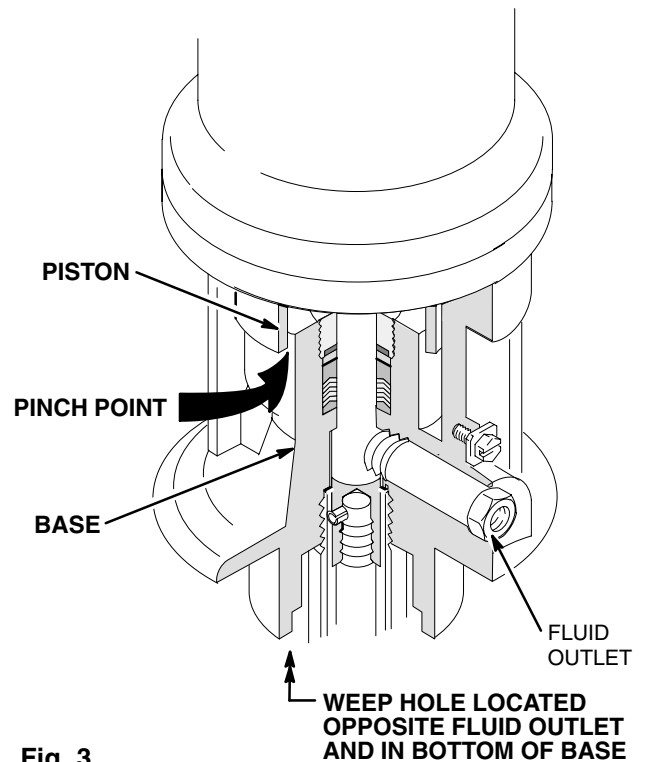

Fig. 3
Keep your hand and fingers away from the piston when it is moving. As the piston moves into the pump base it can amputate fingers or break tools caught between the moving parts. Note the pinch point shown in Fig. 3. Be sure all air and fluid pressure is fully relieved before adjusting the piston or packing nut to reduce the risk of amputation.
3. Check to see that the air motor piston is at the top of the stroke. If it is not, **first read the warning above. Then, while keeping your fingers away from moving parts**, apply very low pressure air to the air inlet to move the piston up. Close the air regulator and disconnect the air supply hose. Refer to Fig. 3.